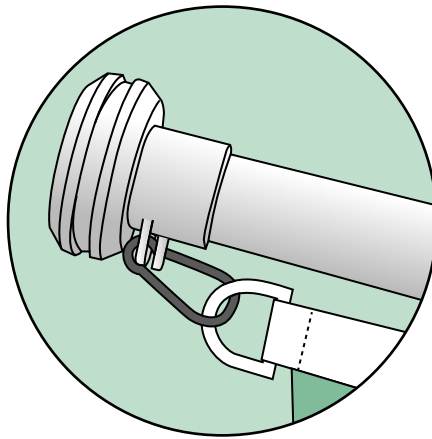

Fig 2
- 2, Connect the D-ring at the top of the flag onto the clip. (see Fig 2).